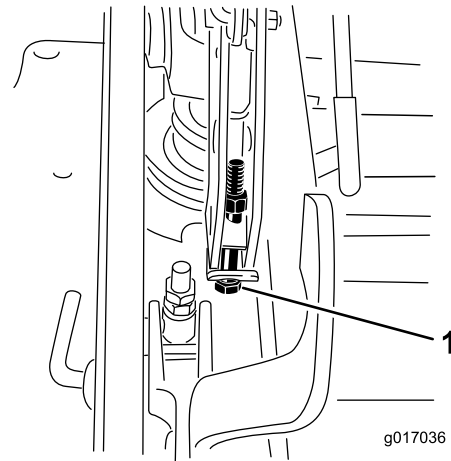

**Figure 90**
12. To adjust the single point system, loosen the 2 bolts at the bottom of the height of cut plate. Refer to Figure 90.
14. Tighten the 2 bolts at the bottom of the height of cut plate (Figure 90). Torque to 37-45 N-m (27-33 ft-lb).